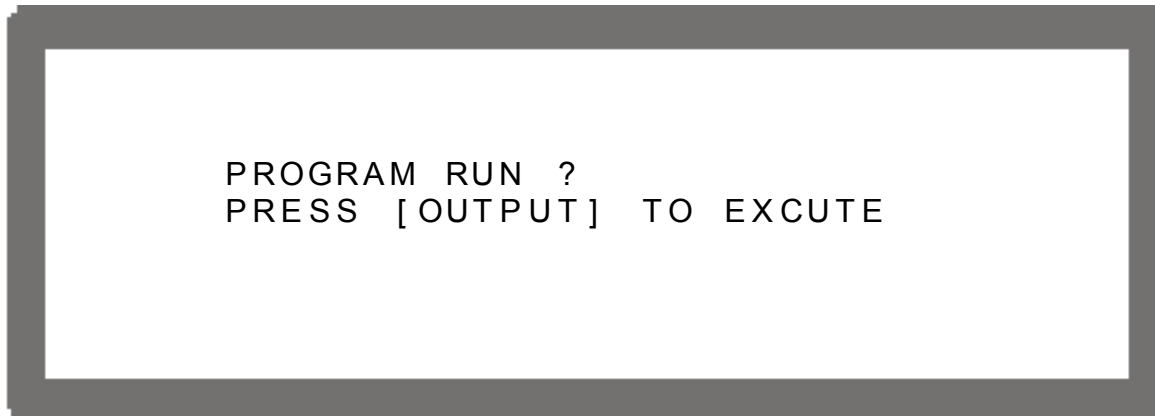

Figure 4-15
1. Press “” will prompt a confirmation page as Figure 4-15 shows.
1. Press “**OUTPUT**” in Program page (Figure 4-3) or Sequence page (Figure 4-8) will prompt a confirmation page as Figure 4-15 shows.
1. Press  will appear a confirmation window as Figure 4-15 shows.